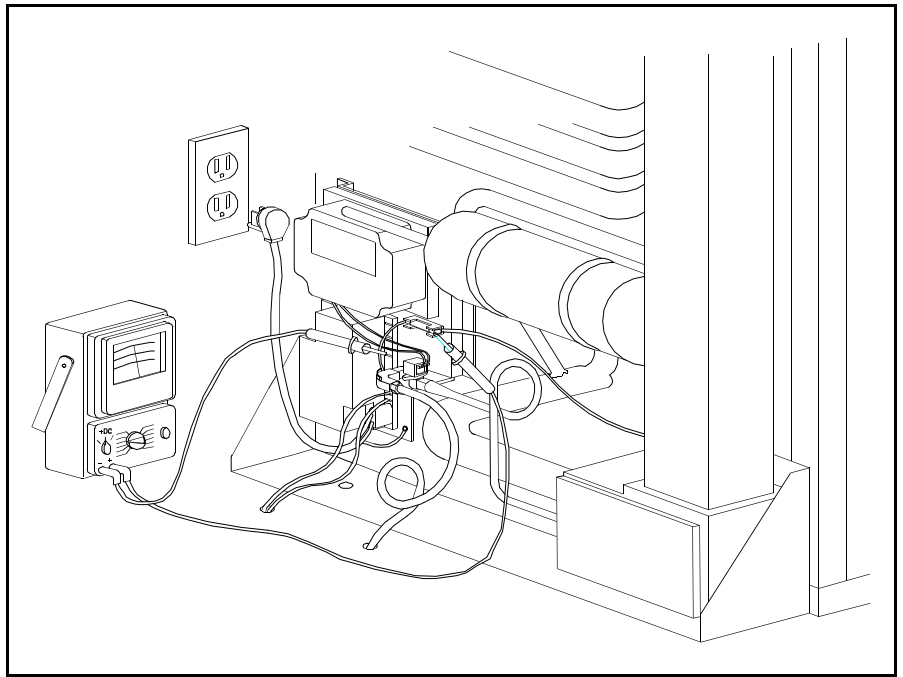

Figure 5.61 DC Heater Fuse Check
21. Check for 12 volts across the DC heater fuse as shown by Figure 5.61. If 12 volts is not measured, the fuse is blown and must be replaced.